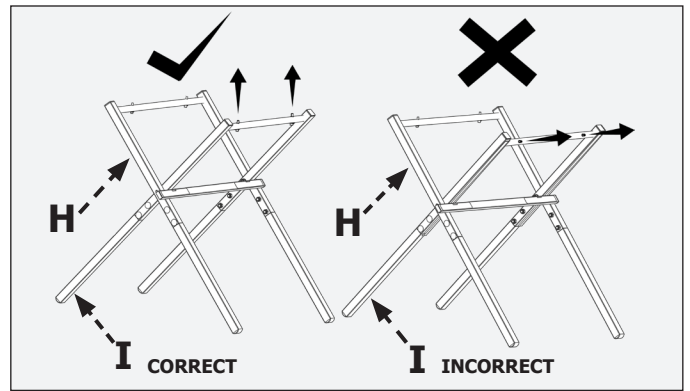

FIGURE 2
NOTE: M8 spacer (c) is between stand part (H) and (I). (FIGURE 2) for correct stand parts setup.